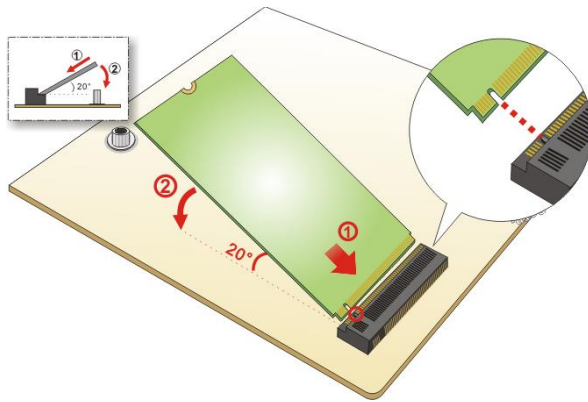

Figure 3-4: Insert the M.2 Module into the Slot
Step 3: Line up the notch on the module with the notch on the slot. Slide the M.2 module into the socket at an angle of about 20° (**Figure 3-4**).